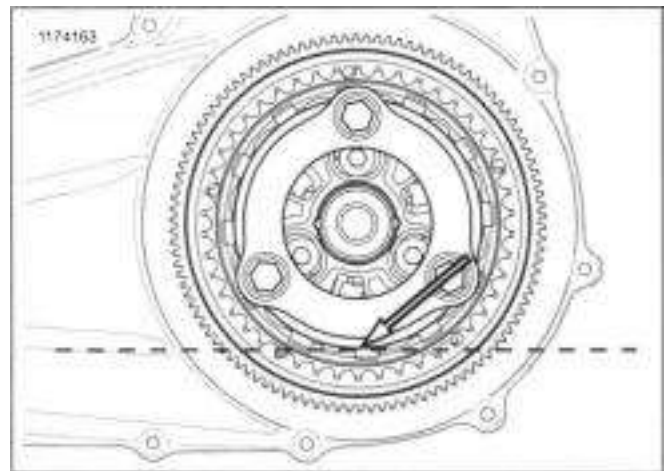

Figure 2-6. Primary Chaincase Lubricant Level
- See Figure 2-6. Proper level is approximately at bottom of pressure plate OD.